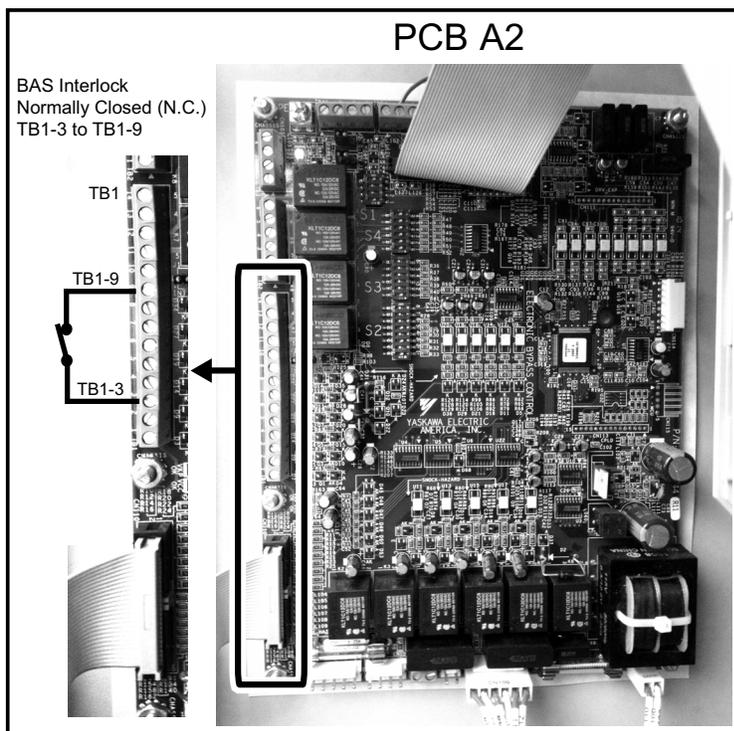

Figure 6 Option 1: Normally Closed (N.C.) Damper/BAS interlock Installation
1. Option 1: Install a normally closed (N.C.) BAS Interlock Circuit between TB1-3 and TB1-9 on PCB A2. Refer to Figure 6.